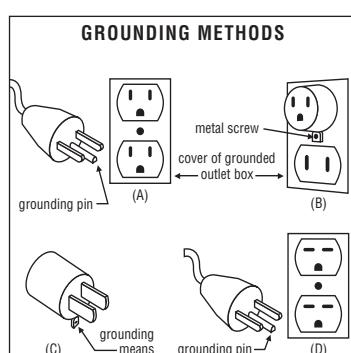

Figure 1
If your unit is for use on less than 150 V, it has a plug that looks like that shown in sketch (A) in Figure 1. If it is for use on 150 to 250 V, it has a plug that looks like that shown in sketch (D). An adapter, see sketches (B) and (C), is available for connecting sketch (A) type plugs to 2-prong receptacles.